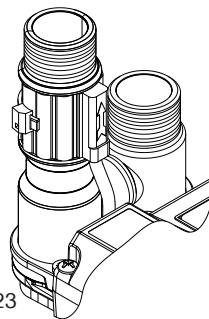

Fig. 23
- The tie wrap can now be pulled tight to secure the reed and excess cut to length as shown (Fig. 23)